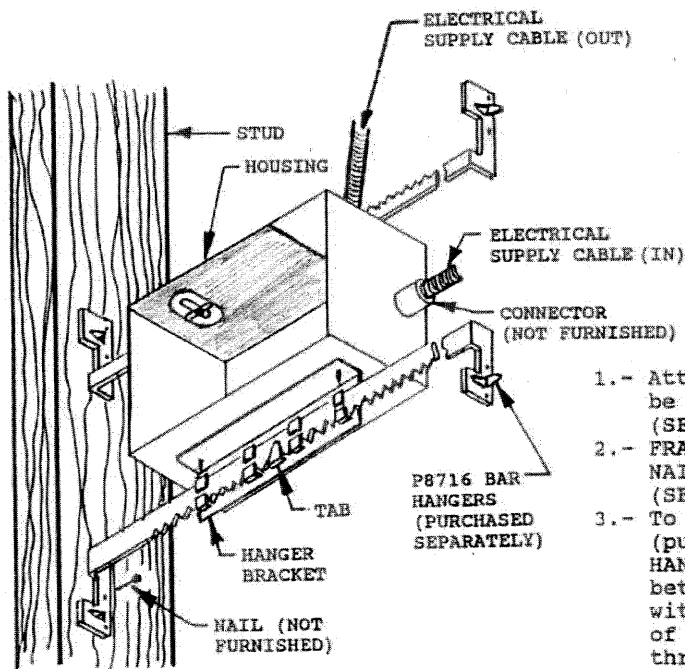

FIGURE 3
- 3.- To use optional PROGRESS P8716 BAR HANGERS (purchased separately). Slip BAR HANGERS into HANGER BRACKETS. Hold HOUSING in desired position between STUDS. **NOTE:** Front of HOUSING must be flush with finished surface of WALL. Drive BARBS, on ends of BAR HANGERS, into STUDS. Use NAILS (not furnished) through HOLES in BAR HANGER ends, for extra support. After HOUSING is located as desired, between STUDS, bend TABS on HANGER BRACKETS over BAR HANGERS, to prevent lateral movement of HOUSING. (SEE FIGURE 3)